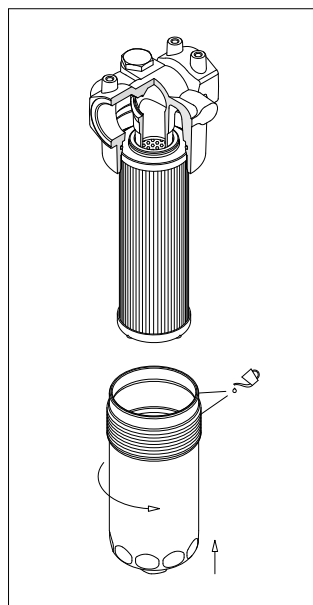

fig. 21
- (Fig. 21) Lubricate the thread and the O-ring of the bowl, then screw the bowl in referring to the tightening torque table in paragraph 3.